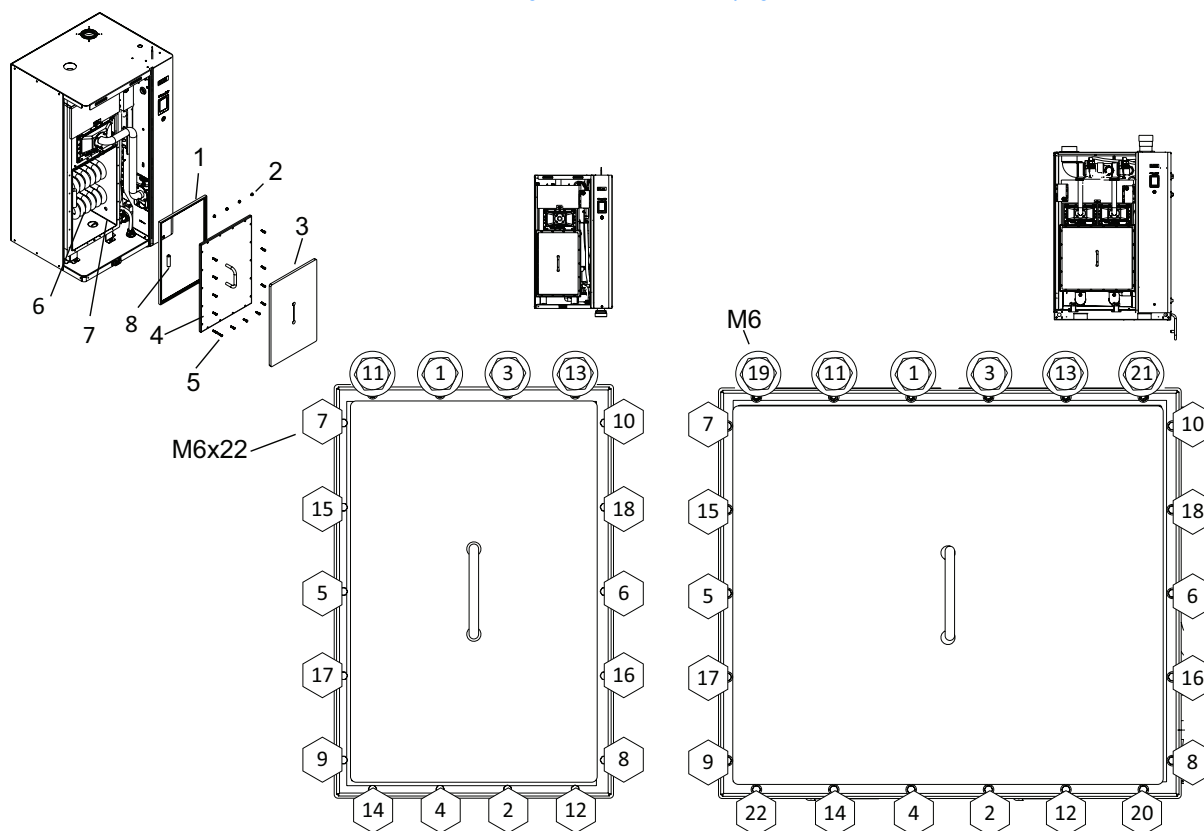

Figure 10: Tank Door Torque Sequence
Clean the inside of the tank, the outside of the primary heat-exchanger coils and the drain fitting as follows. Refer to Figure 10 on page 51. It is not necessary to remove the tank from the unit in order to clean it.
- Install a new tank gasket and secure the tank cover to the tank. **Note:** The order of torquing the bolts for the tank cover are shown in the hexagonal symbols in Figure 10 on page 51. Tighten bolts with your fingers and torque at the end of assembly.